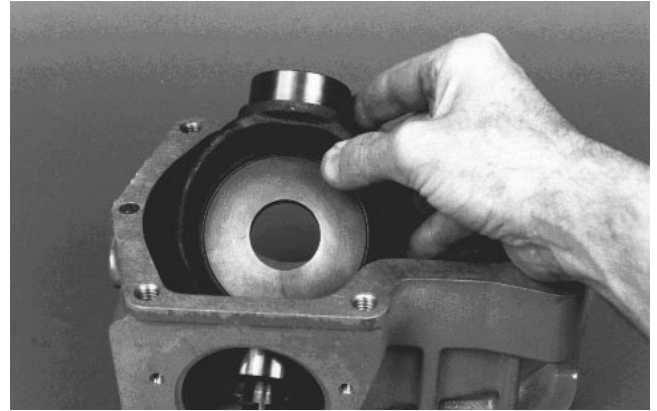

Figure 58
2. Install swashplate into housing (Fig. 58). Make sure swashplate control shaft is located on correct side of housing (note marks made during disassembly).